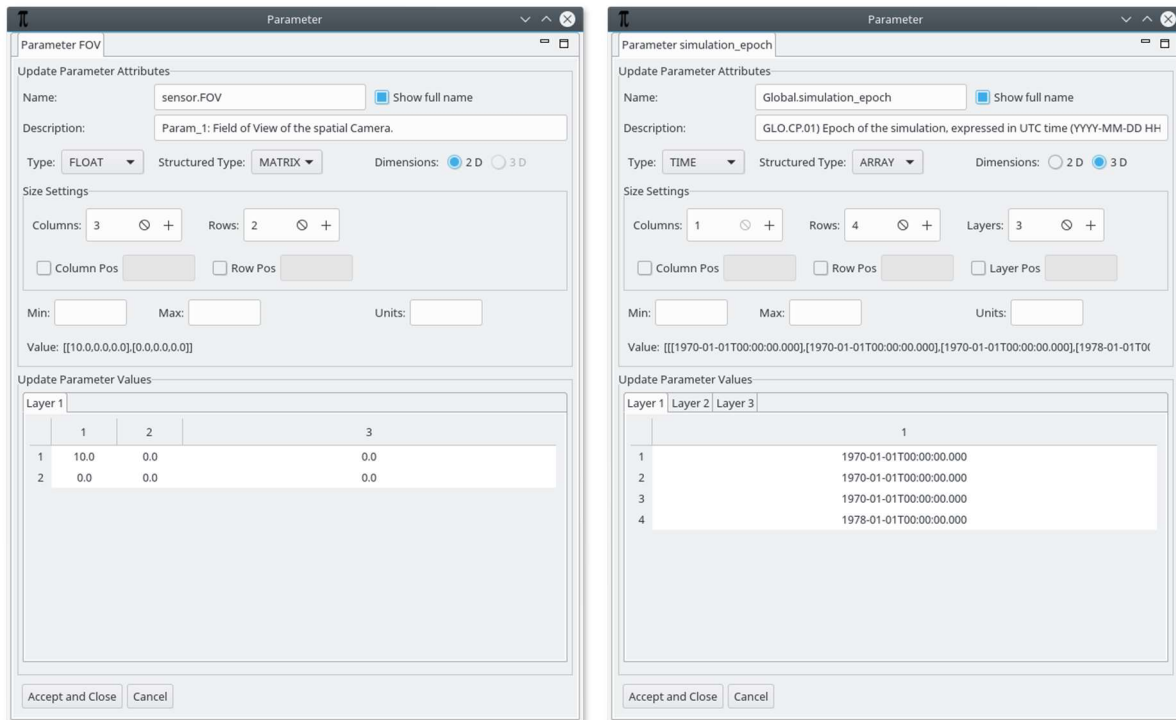

Figure 11: Edition of (a) 2D Parameter; (b) 3D Parameter
- **Columns** and **Rows** are integer fields specifying the number of each parameter dimension (when a 3D parameter is chosen, there is also a **Layers** field – see Figure 11 (b)).
- **Column Pos** and **Row Pos** are integer fields specifying the parameter dimension where the new columns/rows shall be inserted (when a 3D parameter is chosen, there is also a **Layer Pos** field – see Figure 11 (b)).
Figure 11 (a) shows the edition window for a FLOAT MATRIX parameter while Figure 11 (b) depicts the edition for a parameter of type TIME ARRAY with 3 dimensions.